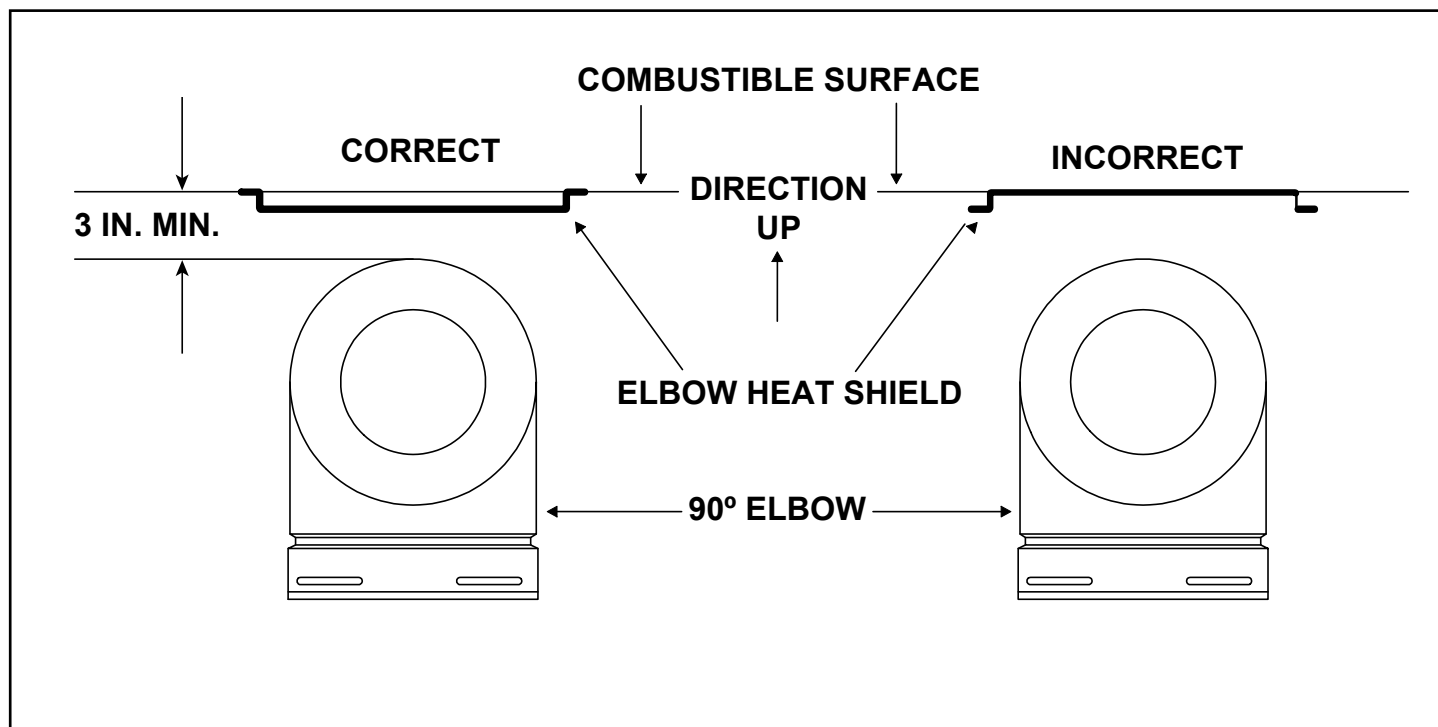

Figure 10.16 Orientation of Elbow Heat Shield
2. Fasten the shield in place using the four pilot holes provided in the part. The shield should be oriented such that the 13 1/8 inch dimension (longest dimension) is running in the same direction the elbow is pointing. The shield should be centered directly above the elbow, and positioned so that it creates a 1/2 inch airspace between the shield and the combustible surface. See Figure 10.16.